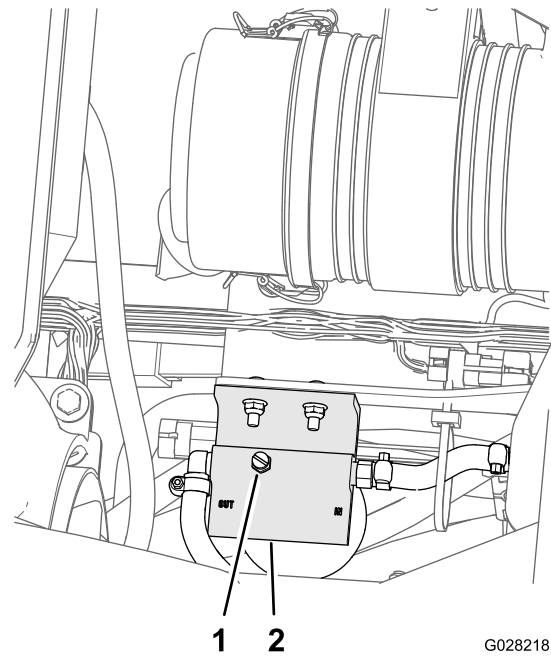

Figure 54
5. Loosen the vent plug at the top of the fuel/water separator (Figure 54)
7. Tighten vent plug (Figure 54) and turn the starter switch to the Off position.